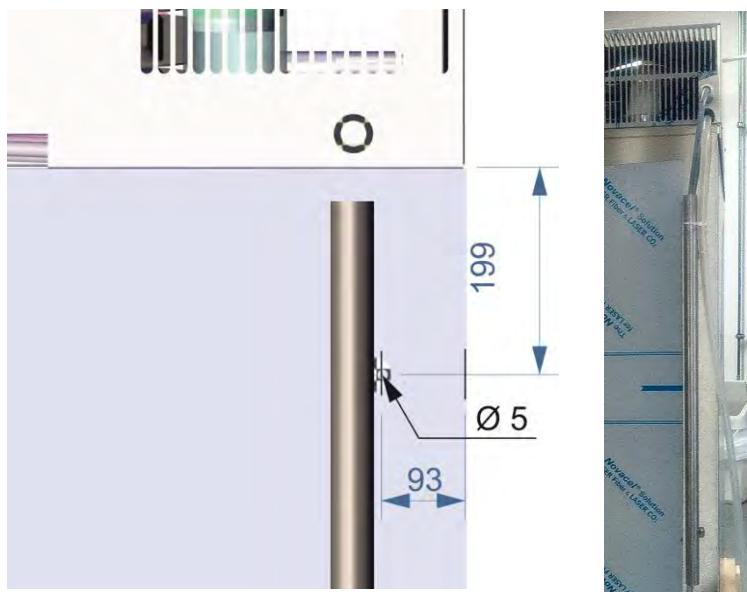

Fig. 71: Installation details
6. To mount the protective tube drill the hole for the upper holding clip in the device rear panel (Fig. 71). Then fasten the protective tube using the pan head screw M4x8 and washer nut M4 and align vertically. Drill the hole for the second clip and also fasten using the pan head screw M4x8 and washer nut M4.